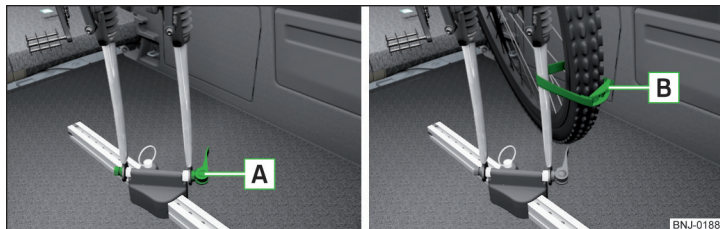

Fig. 98 Insert the front fork of the bicycle into the carrier / mounting example of the front wheel
- Release the quick release [A] » Fig. 98 on the carrier and adjust according to the bicycle fork width.
- Attach the front wheel with belt [B] to the front fork » Fig. 98 or to the bicycle frame.